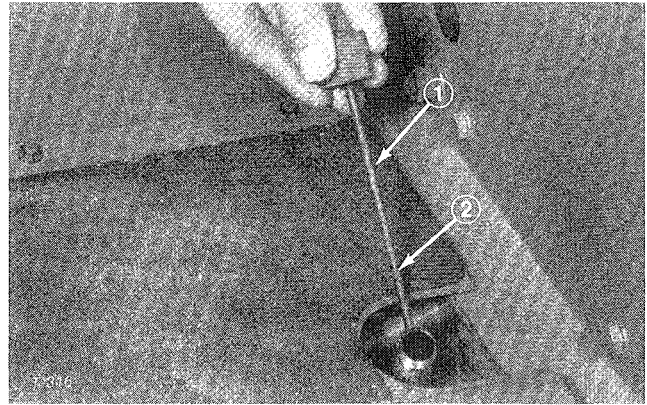

Figure 67
7. Remove dipstick from axle filler tube and fill axle to proper level (Fig. 67). Reinstall the dipstick.